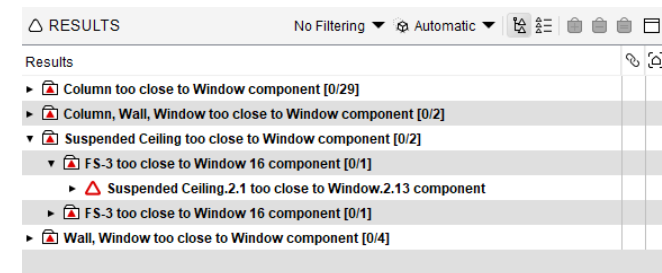

Figure 59: Ceiling too close to windows
- (2) Be sure that **Automatic** visualization is set back on and open the "Suspended Ceiling too Close to Window Component" category in the **Results Tree Table** and select the issue group "FS-3 too close to window 17 component" (see Figure 59).